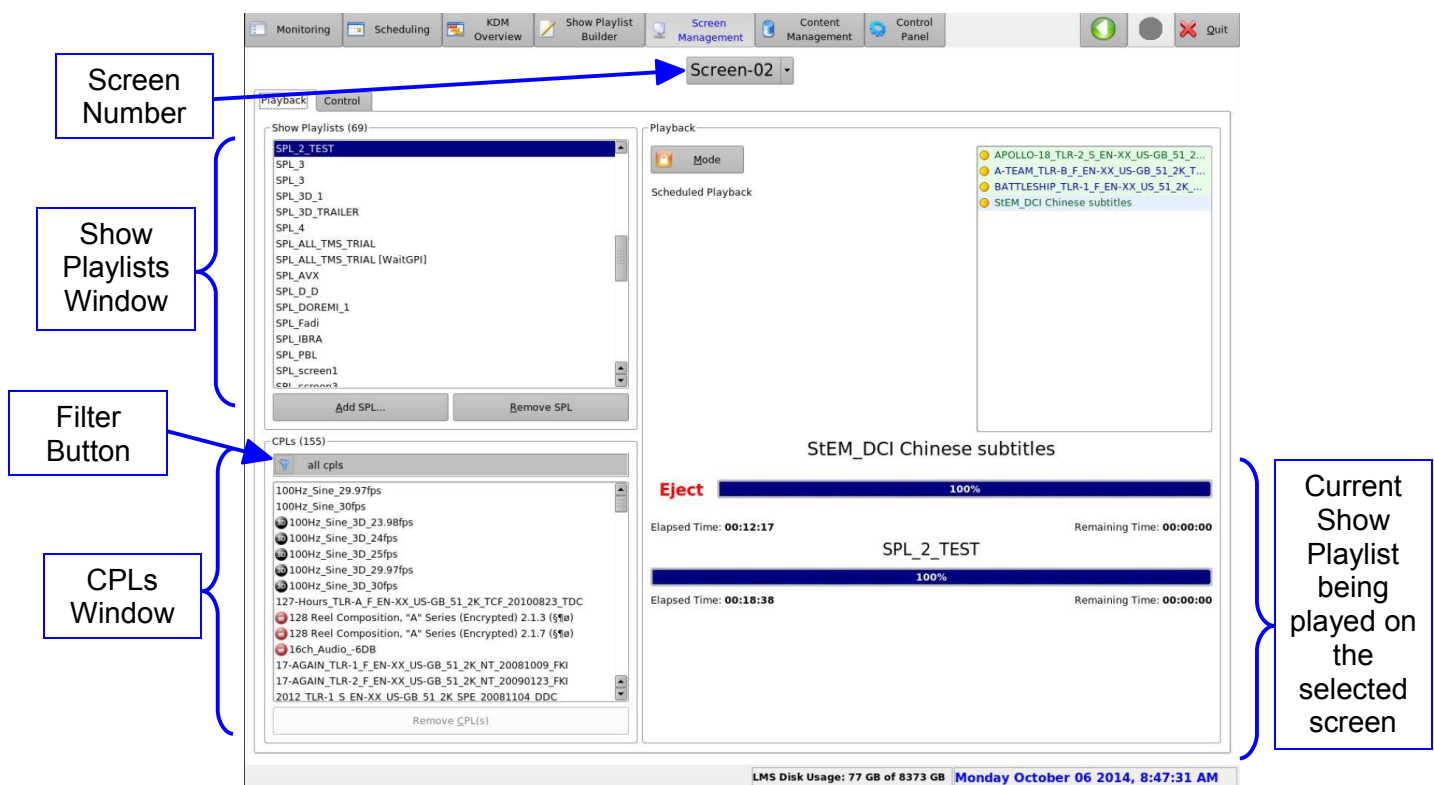

Figure 71: Screen Management: Playback Tab
- The screen number can be selected using the list-box available on the top of the tab (Figure 71):
- The left part of tab displays the Show Playlists and the Composition Playlists (CPLs). Both are available on the selected screen in the Show Playlists window and in the CPLs window (Figure 71).